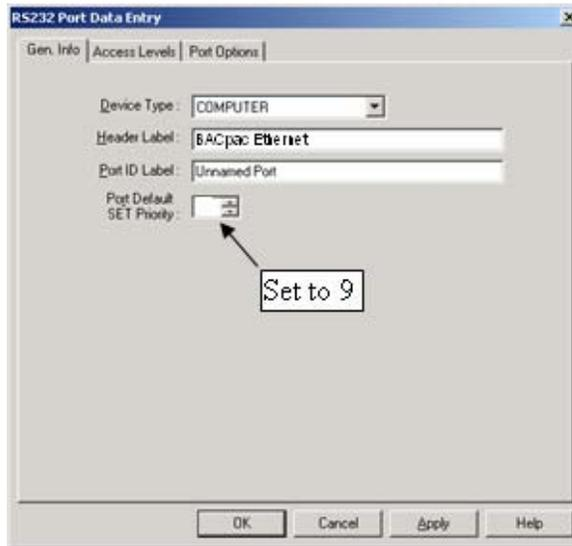

Figure 5: Port Default SET Priority
2. Leave the Port default SET priority at the default of 9 (as seen in Figure 5). This will restrict access to panel features (like Silence, Acknowledge and Reset). These features will only be available from the front panel or on another approved network device like a workstation, NDU or LCD Annunciator.